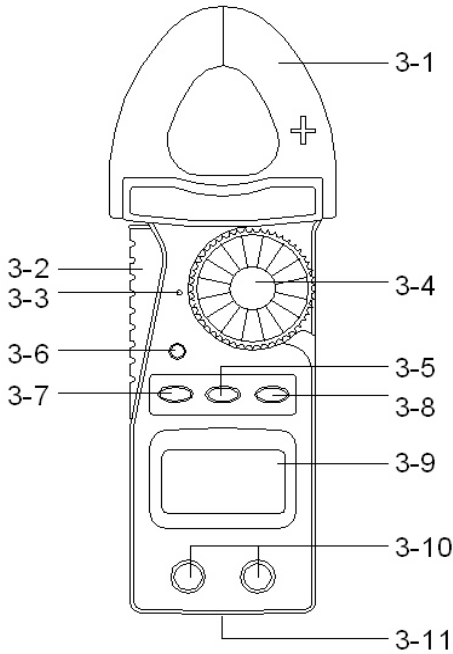

Fig. 1
- 3) If measure " DCV ", select the " Function rotary switch " (3-4, Fig. 1) to the " V " position then push the " FUNC. button " (3-7, Fig. 1) for display show " ".
- 4) If measure " ACV ", select the " Function rotary switch " (3-4, Fig. 1) to the " V " position then push the " FUNC. button " (3-7, Fig. 1) for display show " ".
- 6) Under the operation of " auto range " mode, push the " Range button " (3-5 Fig. 1) will hold the range.
- 3) Select the " Function rotary switch " (3-4, Fig. 1) to the " Ω " position then push the " FUNC. button " (3-7, Fig. 1) for display show " Ω ".
- 5) Under the operation of " auto range " mode, push the " Range button " (3-5 Fig. 1) will hold the range.
- 3) Select the " Function rotary switch " (3-4, Fig. 1) to
- the " \rightarrow " position then push the " FUNC. button " (3-7, Fig. 1) for display show " \rightarrow "
- 3) Select the " Function rotary switch " (3-4, Fig. 1) to the " \rightarrow " position then push the " FUNC. button " (3-7, Fig. 1) for display show " \rightarrow ".
Select the " Function rotary switch " (3-4, Fig. 1) to the " 40 mA/400 mA " position.
Select the " Function rotary switch " (3-4, Fig. 1) to the " 40 A/120 A " position.
- 2) Press the " Trigger " (3-2, fig. 1) to open the " Current Sensor Jaws " (3-1, Fig. 1) & clamp on the measure conductor only.
- 4) Under the operation of " auto range " mode, push the " Range button " (3-5 Fig. 1) will hold the range.
- 1) During the measurement of ACV, ACA, DCV and ohm, the circuit will memorize the last measured values if push the " REL. button " (3-8, Fig. 1) at once, then LCD will show zero value & a " REL. " indicator.
- 1) During the measurement, pushing the " Hold button " (3-6, Fig. 1) once a while will freeze the measured value and the LCD will indicate " HOLD " symbol.
- 2) Open the screw of " Battery Cover " (3-11, Fig. 1) by screwdriver, then move the battery.